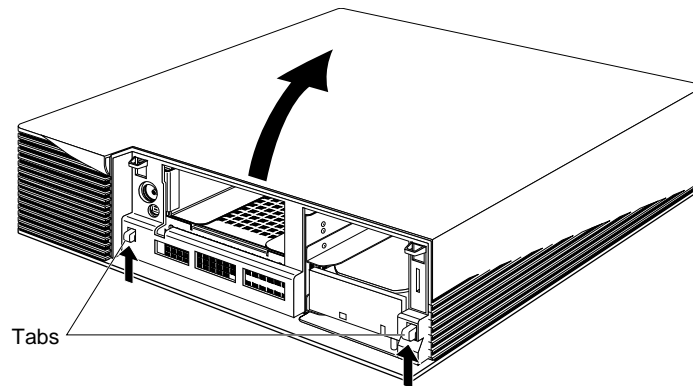

Figure 4-10 Removing the Top Cover From the Indigo² Chassis
- Rotate the cover back and away from the chassis, as shown in Figure 4-10.